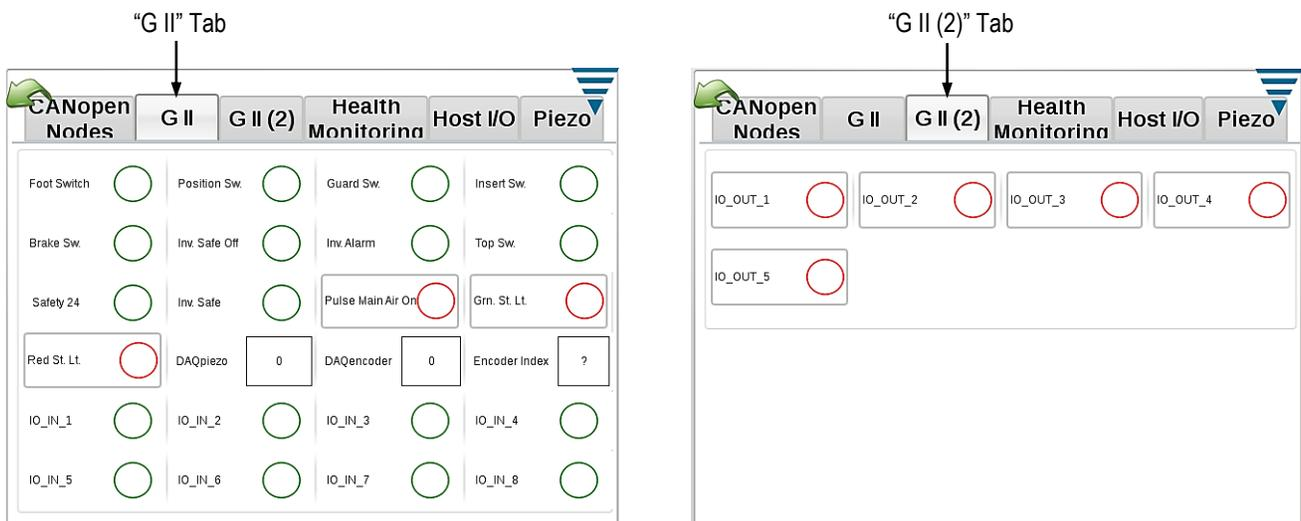

Figure 17
3. Touch the “G II” or “G II (2)” tab at the top of the screen. See Figure 17.